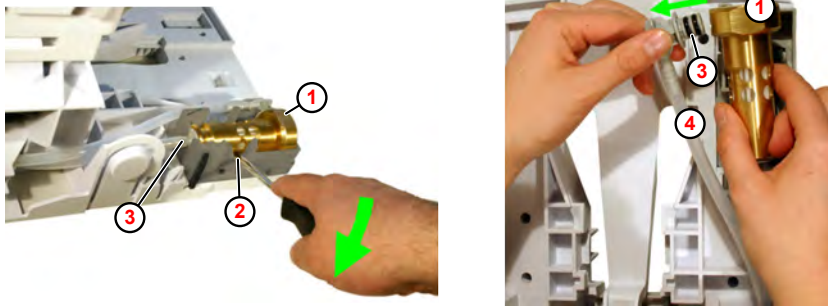

Fig. 16: Removing/installing the pipe interrupter
1. Use a screwdriver to pry the pipe interrupter (Fig. 16 , ①) out of the holder (side opening) ② .
2. Remove the connecting nipple ③ from the pipe interrupter ① .